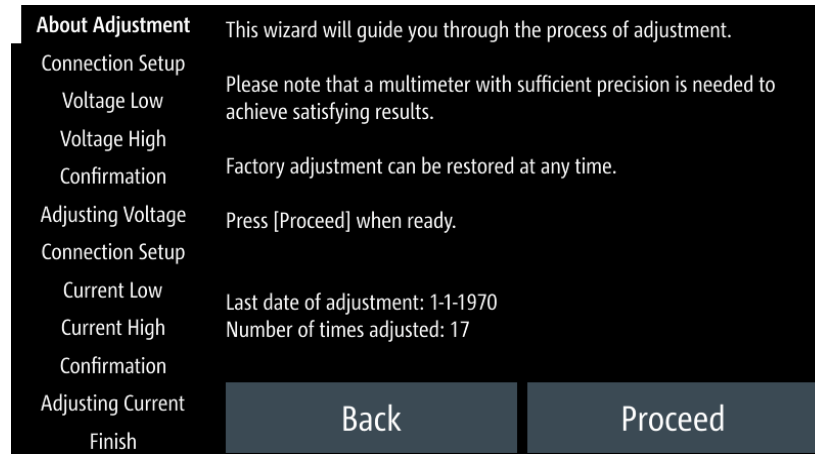
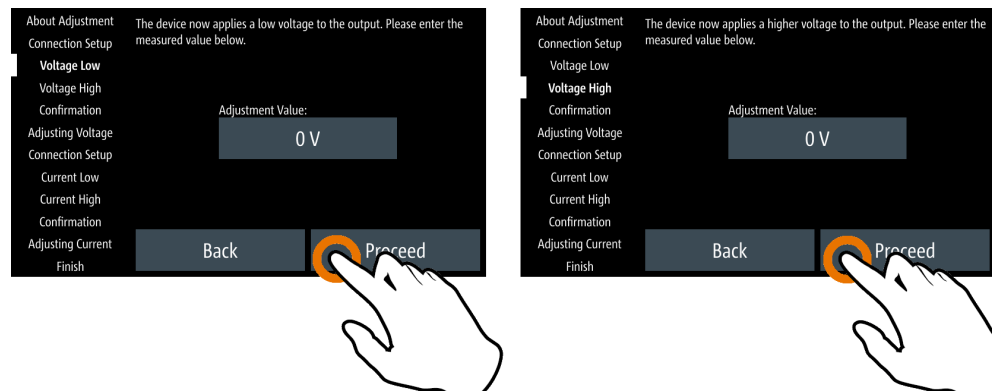

Figure 6-47: Channel adjustment wizard
Figure 6-48: Channel adjustment procedure
- Follow the on-screen instructions displayed in the Figure 6-47. The R&S NGP800 applies a low voltage/current followed by a high voltage/current for voltage/current adjustment. Key in the measured value from DMM using the on-screen keypad. See Figure 6-48.